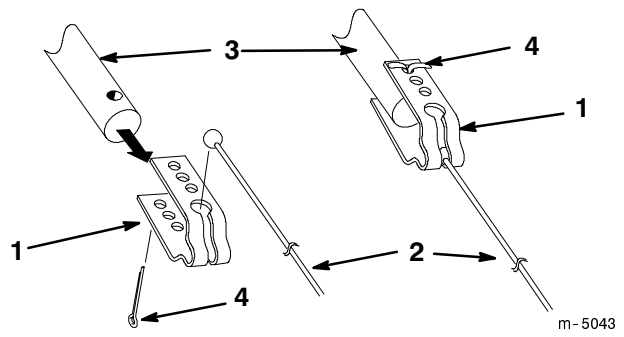

Figure 11
6. Remove the end of the cable from the cable bracket on the angle pin (Fig. 11).